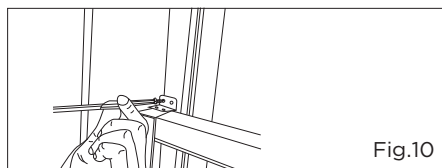

Fig.10
6. To secure lower sash in place, attach right angle sash lock with 1/2" (12.7mm) screw as shown (Fig.10).